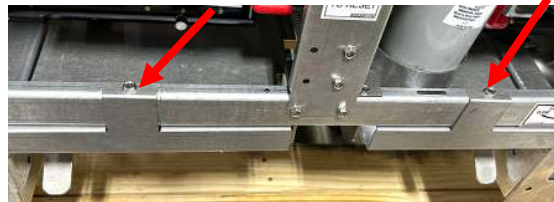

Figure 1
2. Remove the two (2) filter pan lid screws (see Figure 1).